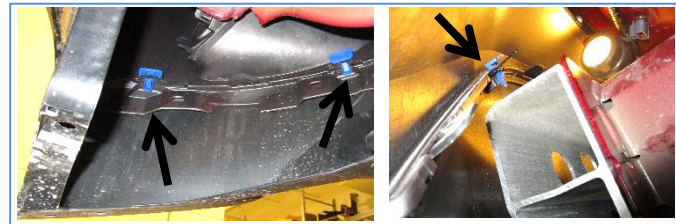

Figure 2
- Remove (2) plastic underbody panels** – using a flat head screwdriver, remove (5) plastic push pin rivets and loosen (2) threaded fasteners from the driver's side panel located near wheel well area. Remove (4) push pin rivets and loosen (1) threaded fastener from the passenger's side panel.
- by hand, remove (6) retaining clips, (3 per side), from underside of fascia, that connect the lower fascia to upper fascia, located at the outer ends of fascia. **NOTE:** Two clips are behind the aluminum bumper beam. **See Figure 2.**
- remove bottom half of wheel well trim – using a 10mm socket, remove (1) screw from wheel well trim, and using a flat head screwdriver, remove (1) push-pin rivet, both sides.
- using a plastic trim panel tool, carefully pry (3) clips holding the wheel well trim.